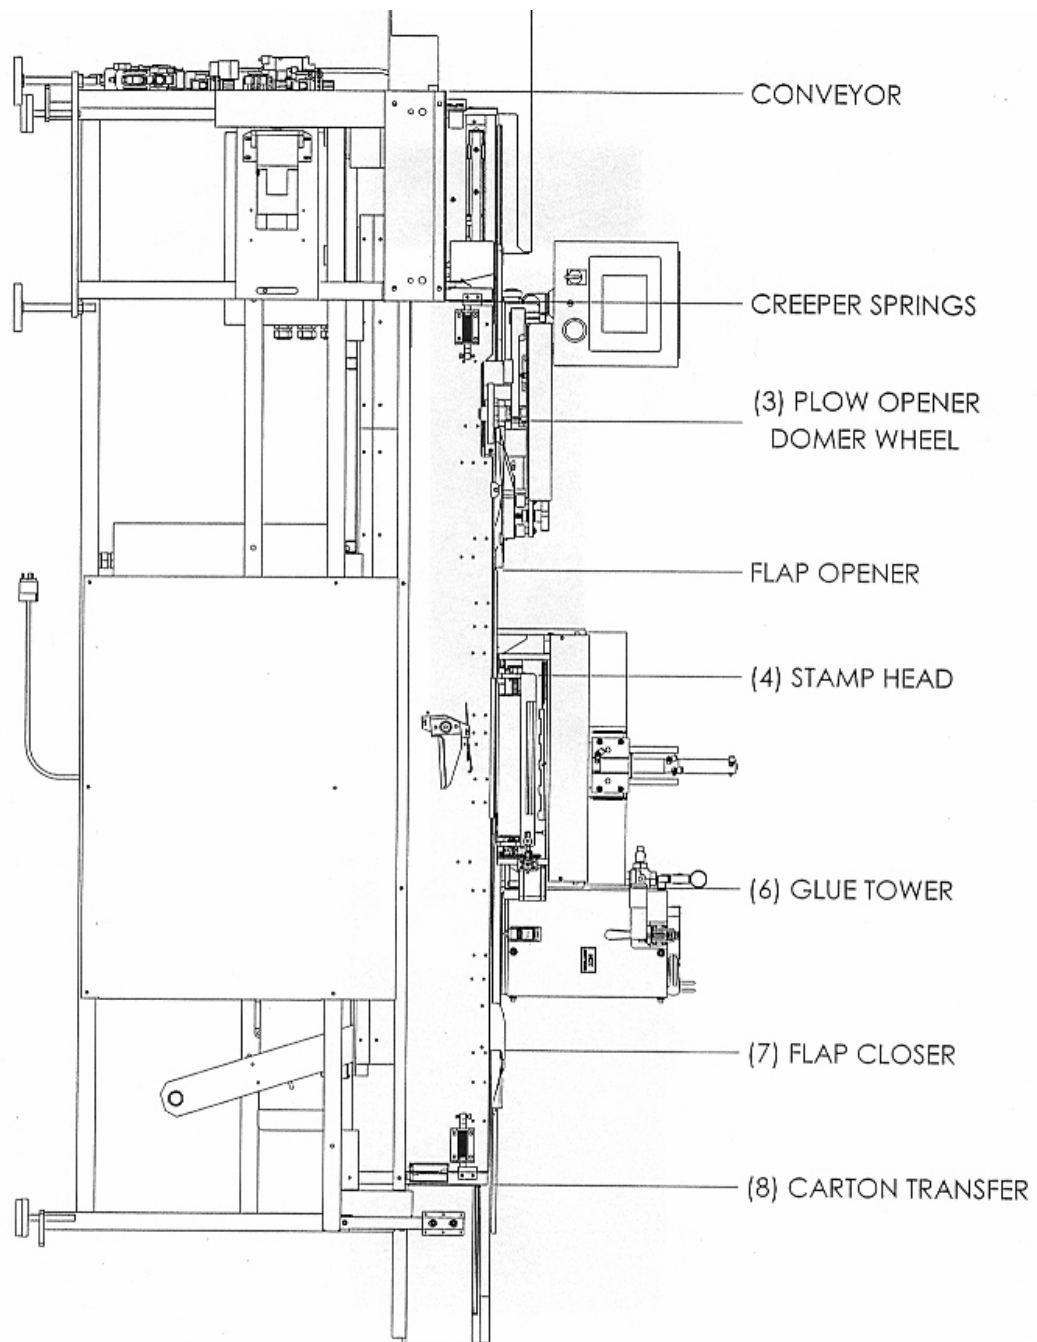

Figure 1. VL-10 Stations
- 3) Once the presence of the carton is detected in the trough, a lifter raises the carton up to, or at least near, the trough ceiling so that the carton will be well oriented with the plow. Then the first “pusher block” pushes the carton downstream to the second “trough station” and then the first pusher block retracts. The carton briefly rests at this second station, while all pusher blocks return to their starting position. At the start of the next cycle, the second pusher block pushes the carton to the third trough station. This series of brief pauses followed by advances continues as the carton travels the length of the stamping machine. Each advance (or index) followed by a pause (or dwell) is considered one machine cycle. During the dwell of each cycle the following processes will occur, if a carton is correctly positioned. See figure 1 for stations references.